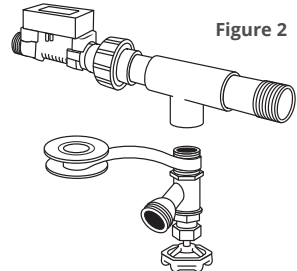

Figure 2
2. Wrap the 1/2" male drain end 2-3 times with NSF certified plumber's tape* (Figure 2).